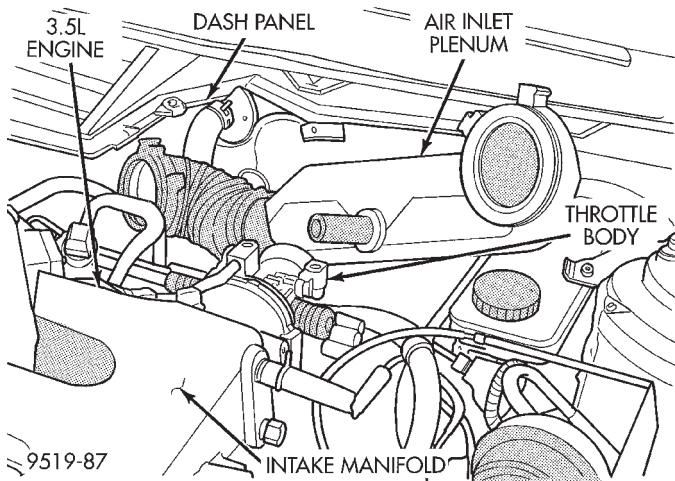

Fig. 8 Air Intake Plenum
(11) If vehicle is equipped with a 3.5 ltr. engine, disconnect the air plenum from throttle bodies, PCV make up air tube and idle air control motor. Then remove the air plenum from the left side of the vehicle through wiper module area (Fig. 8).
(12) Remove vacuum supply hose for power brake booster at intake manifold, and position hose out of the way.